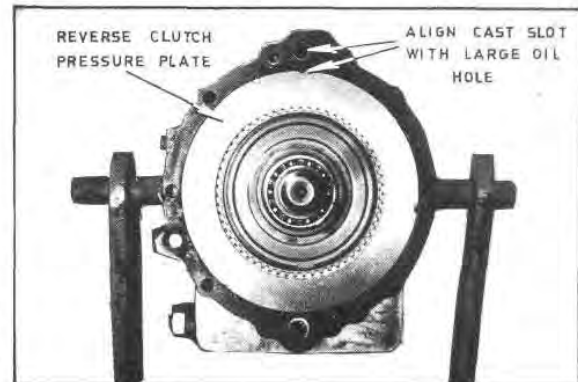

Fig. G24 — The Reverse Clutch Pressure Plate
9. Remove the clutch pressure plate as shown in Figure G24. Check the pressure plate for wear, scor-